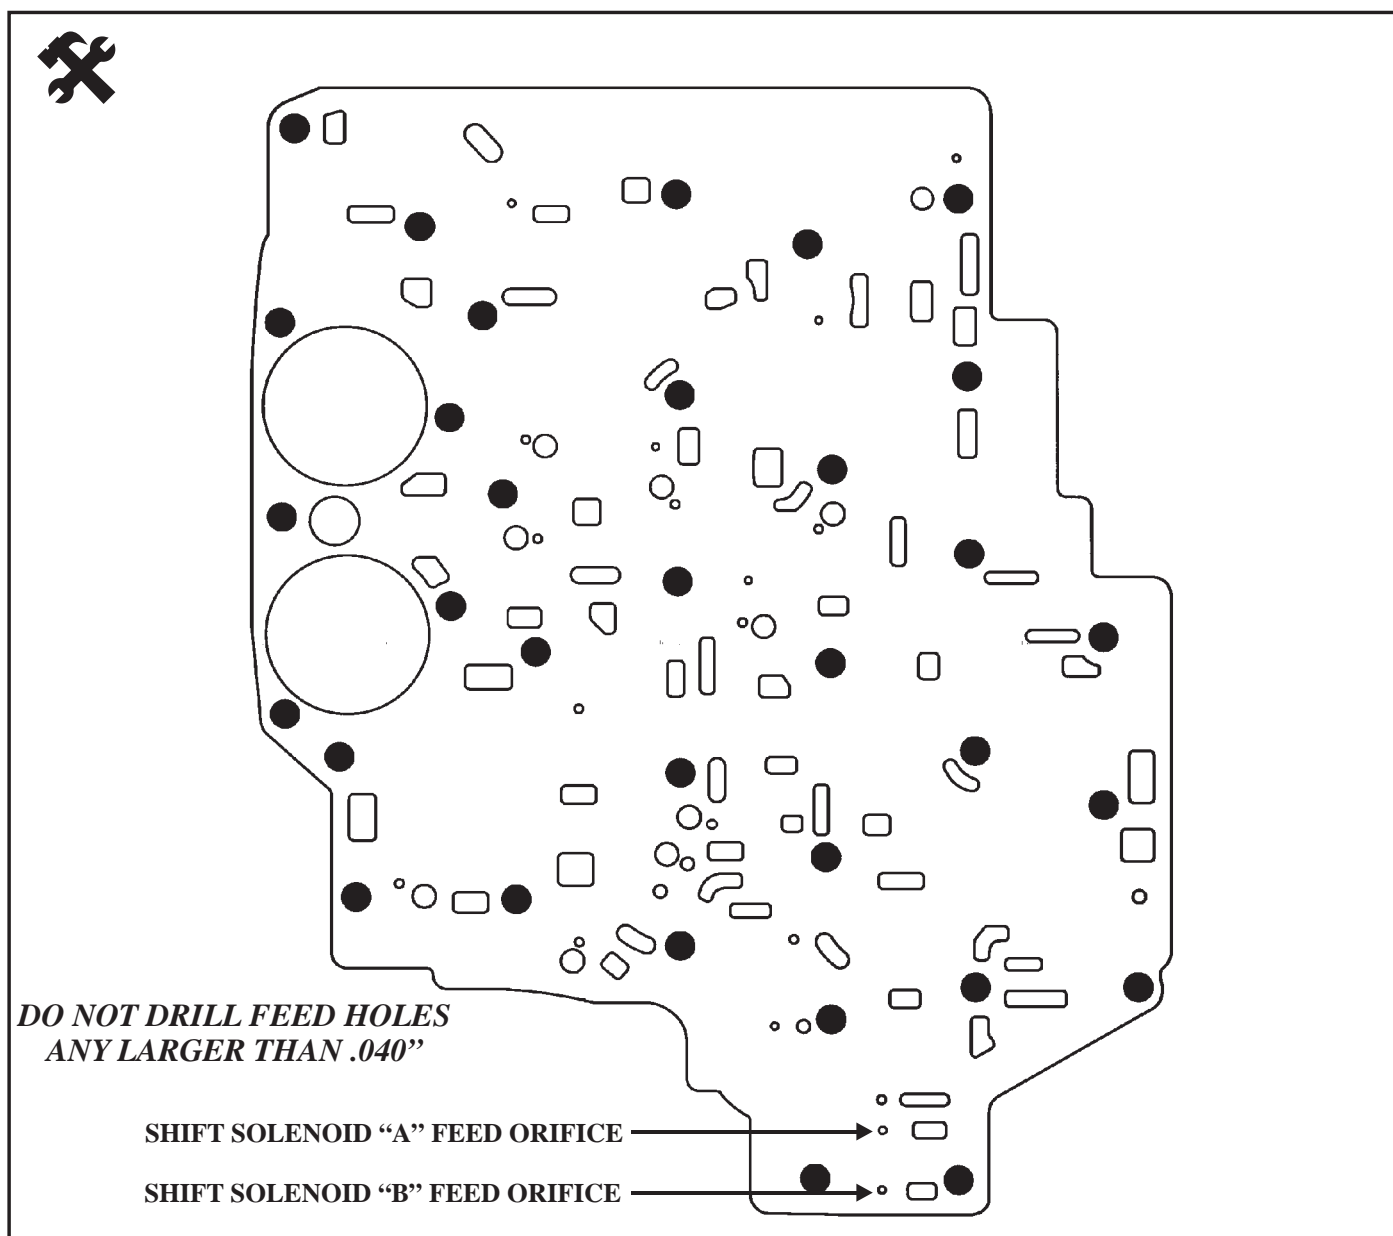

Figure 132
- As the vehicle ages, the window for setting code 87 or incorrect ratio codes becomes overly sensitive. This can easily be compensated for by enlarging the shift solenoid feed holes to .035" to .040". The shift solenoid feed holes are shown in Figure 132.